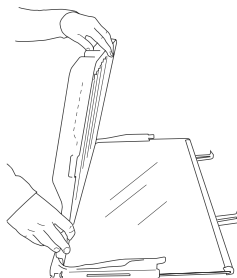

Fig.26 Hold the lid vertically for cleaning
- 3 Hold the lid up vertically (refer to Fig.26) and clean the underside of the shelf and lid.